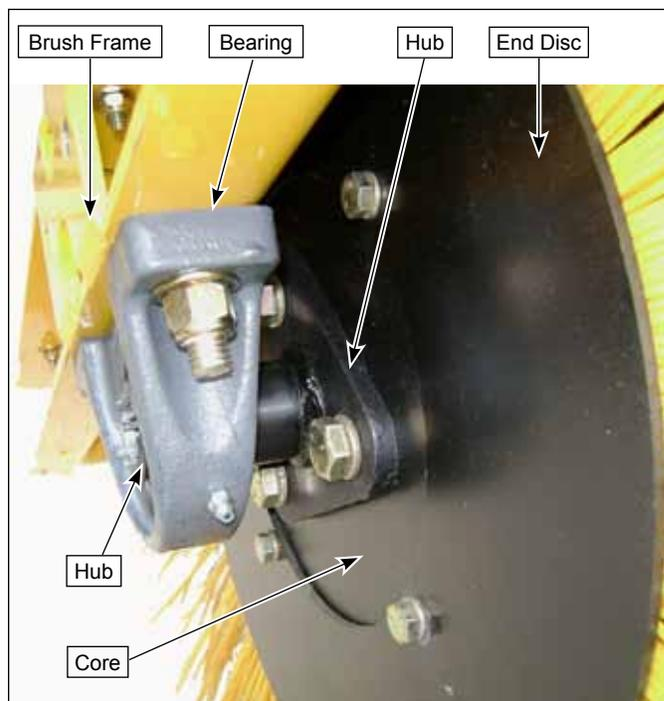

Figure 2
4. Remove (2) 1/2-13 x 2" bolts, flat washers and lock nuts attaching core support bearing to bottom of brush frame at each end of broom. See Figure 2.
2. Remove (3) 1/2-13 x 1" capscrews, lock washers and splined hub from one end of core. Retain hub and mounting hardware. See Figures 2 and 3.
3. Remove (3) or (4) 5/16-18 x 3/4" capscrews, lock washers and end disc (wafer retainer plate) from one end of core. Retain end disc and mounting hardware. See Figures 2 and 3.
4. Install end disc on core with original hardware. See Figure 2.
5. Install splined hub on core with original hardware. See Figure 2.
6. Install end bearing on hub. See Figure 2.
2. Attach pillow block bearings to bottom of brush frame at each end of broom with original hardware. See Figure 2.